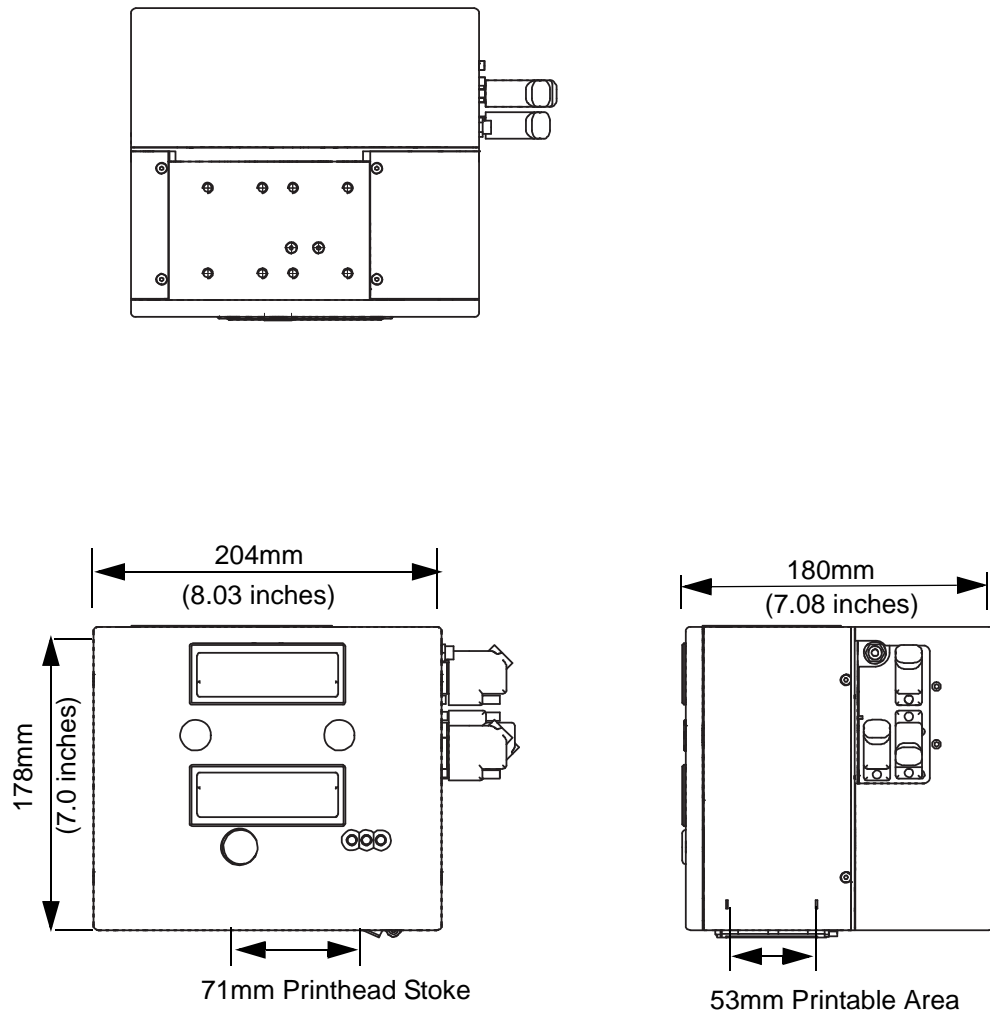

Figure 7-2: DataFlex Plus 53 mm LH Printer Dimensions
Figure 7-2 shows the dimensions of the DataFlex Plus 53 mm (LH) printer.